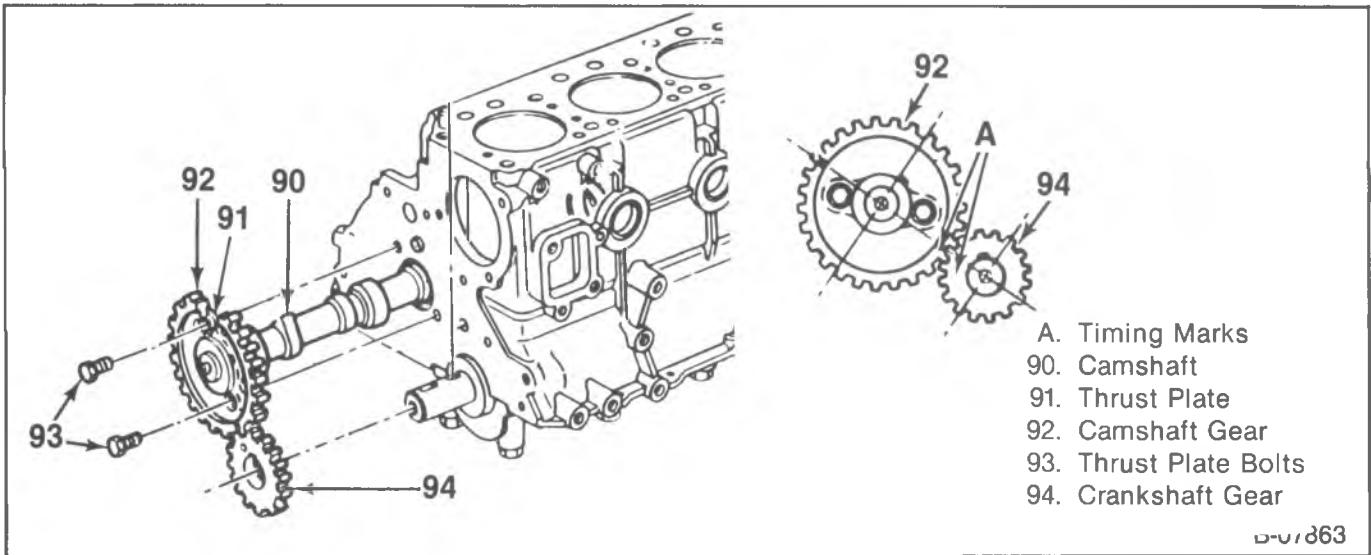

Figure 27—Camshaft And Components
↔ Remove or Disconnect (Figures 27 and 28)
- Align the timing marks (figure 27).
↔ Install or Connect (Figure 27)
- Line up the timing marks on the crankshaft gear and camshaft gear (figure 27).
2. Thrust plate bolts (94).